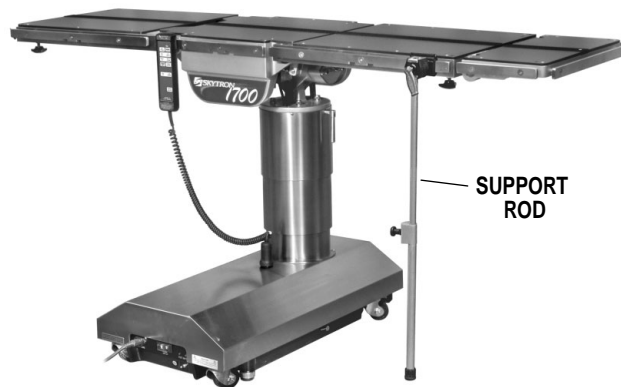

Figure 2-13. 90 Degree Top Rotation
b. The use of the optional support rod allows the table top to be rotated 90° from the base. See figure 2-13.